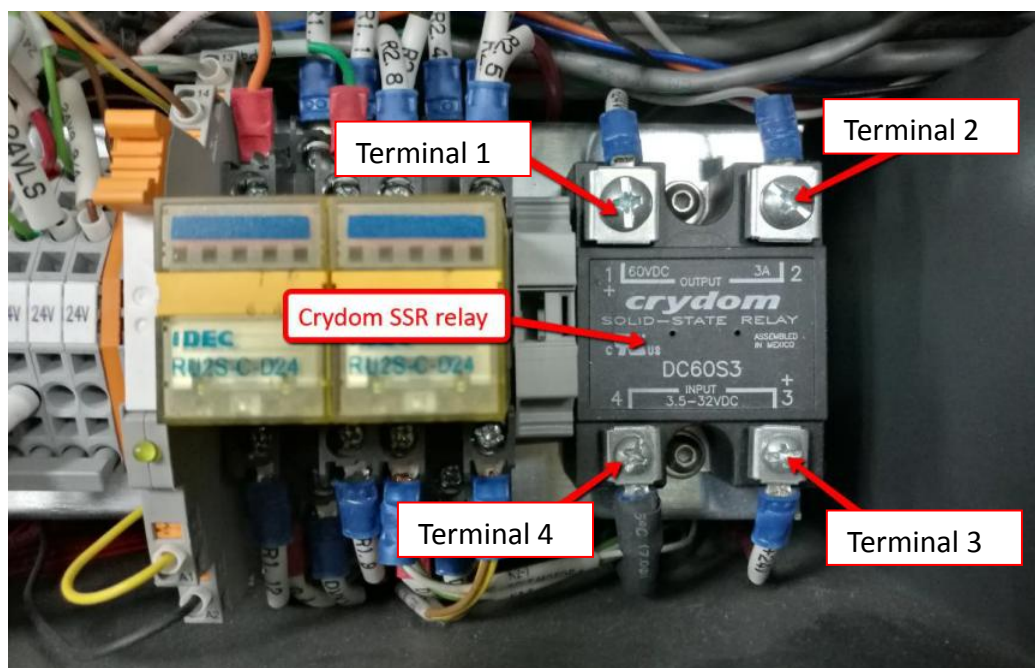
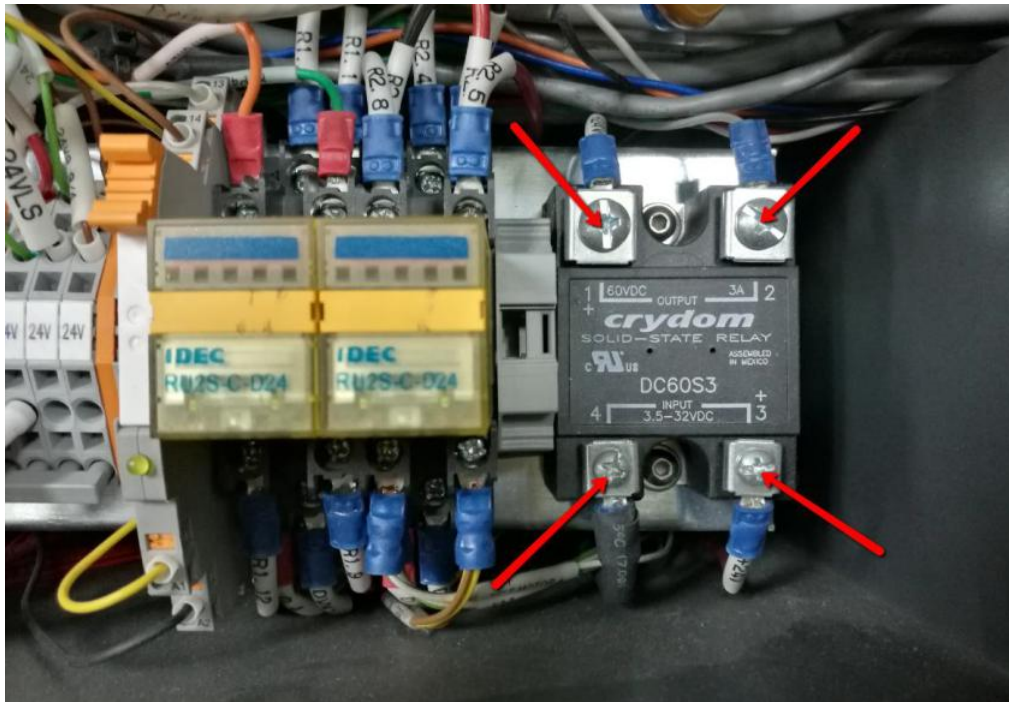

Figure 12 Cables Removal
Figure 15 Cables Assembly
6. Loosen 4 x Screws and remove 4 x Cables as shown in Figure 12
- Refer label marking in Figure 12, gently slot in 4 x Cables into Relay. Tighten 4 x Screws as shown in Figure 15